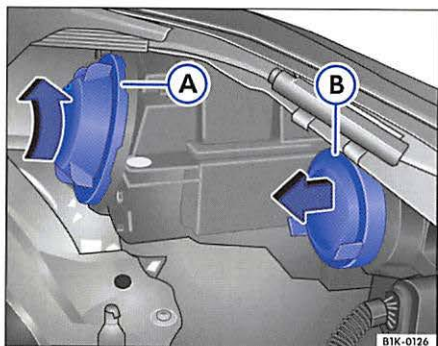

Fig. 36 Cover A for low beam, cover B for high beam and position lamp
- Turn the cover $\Rightarrow$ fig. 36 arrow (A) to the right and remove.
- Pull the rubber cover off $\Rightarrow$ fig. 36 arrow (B).
- Push the cover ⇒page 82, fig. 36 (B) onto the headlight.